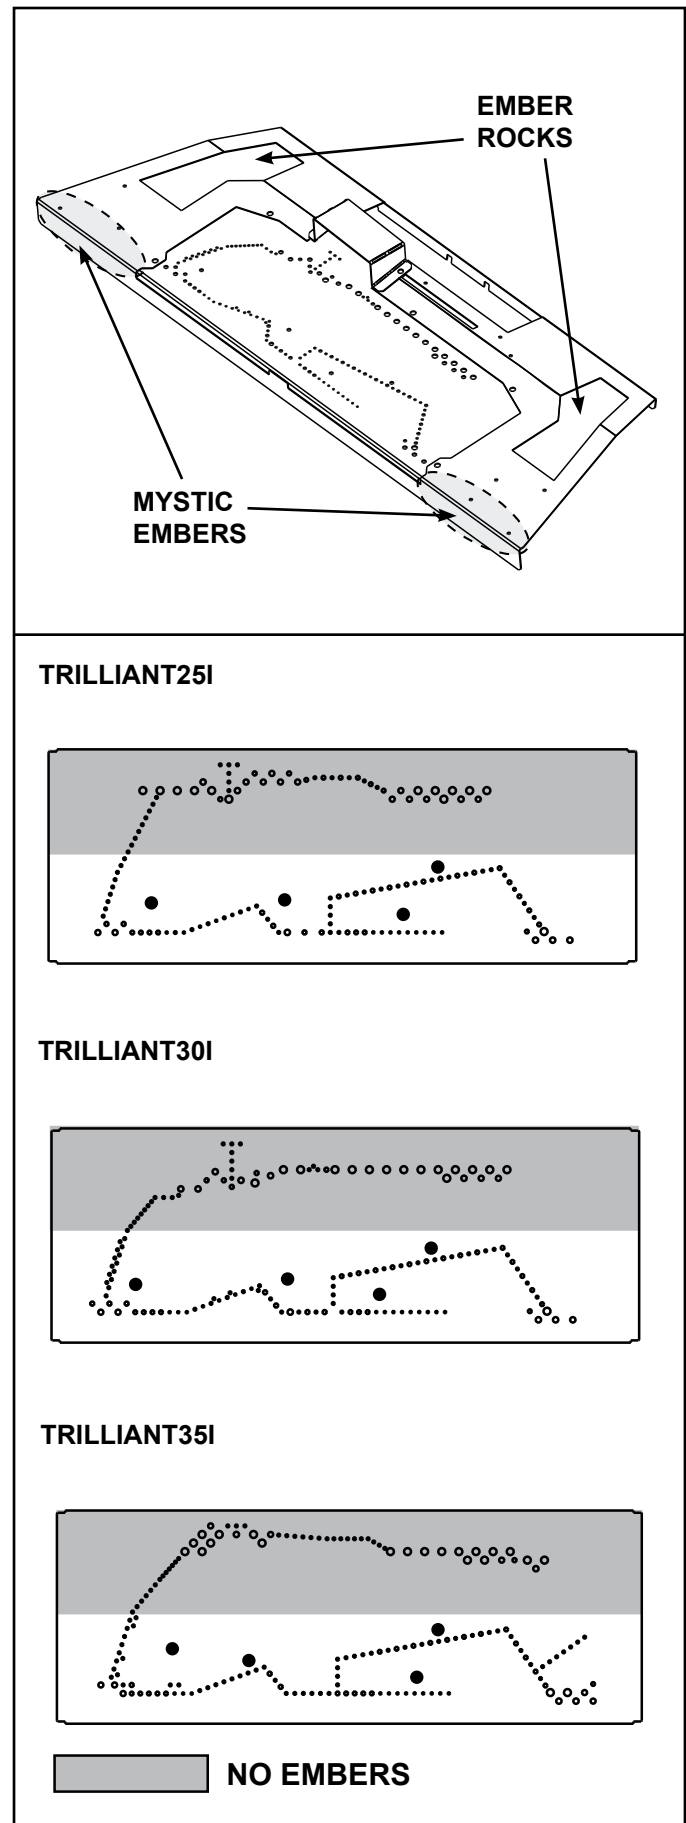

Figure 9.4 Placement of Embers
- Use mystic embers to mask transition between base refractory and base pan. See Figure 9.4.
- Embers CANNOT be placed directly over burner ports that are indicated in Figure 9.4 or in pilot area as indicated in Figure 9.4.
- Embers may be placed on the ports in areas indicated in Figure 9.4. These embers must be placed loosely over the port holes, not pressed down on or into the holes. Create a single layer, no more than 1/4 inch thick.